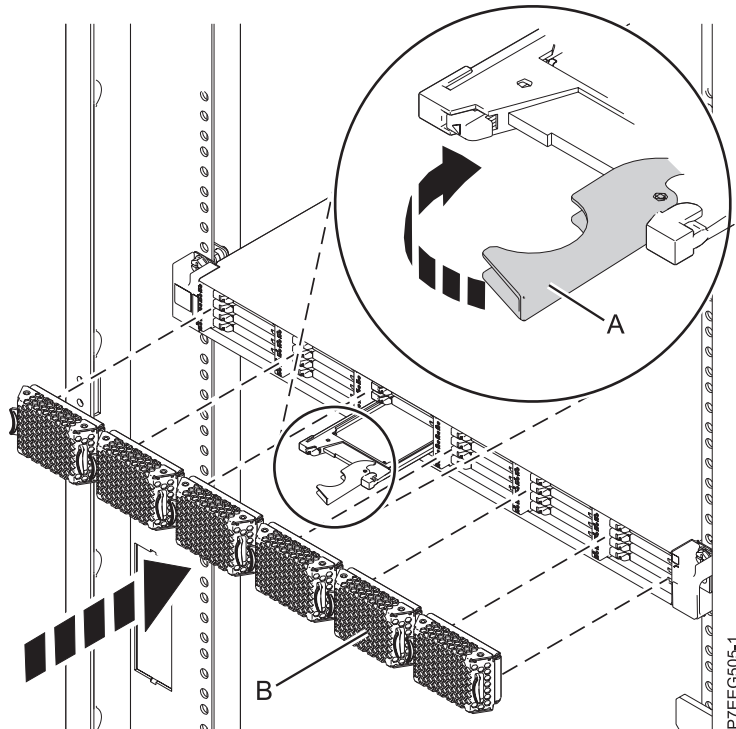

Figure 4. Installing a solid-state drive in the EDR1 PCIe storage enclosure
1. With the handle in the unlocked position, align the solid-state drive with the guide rails in the enclosure. See Figure 4 on page 11.